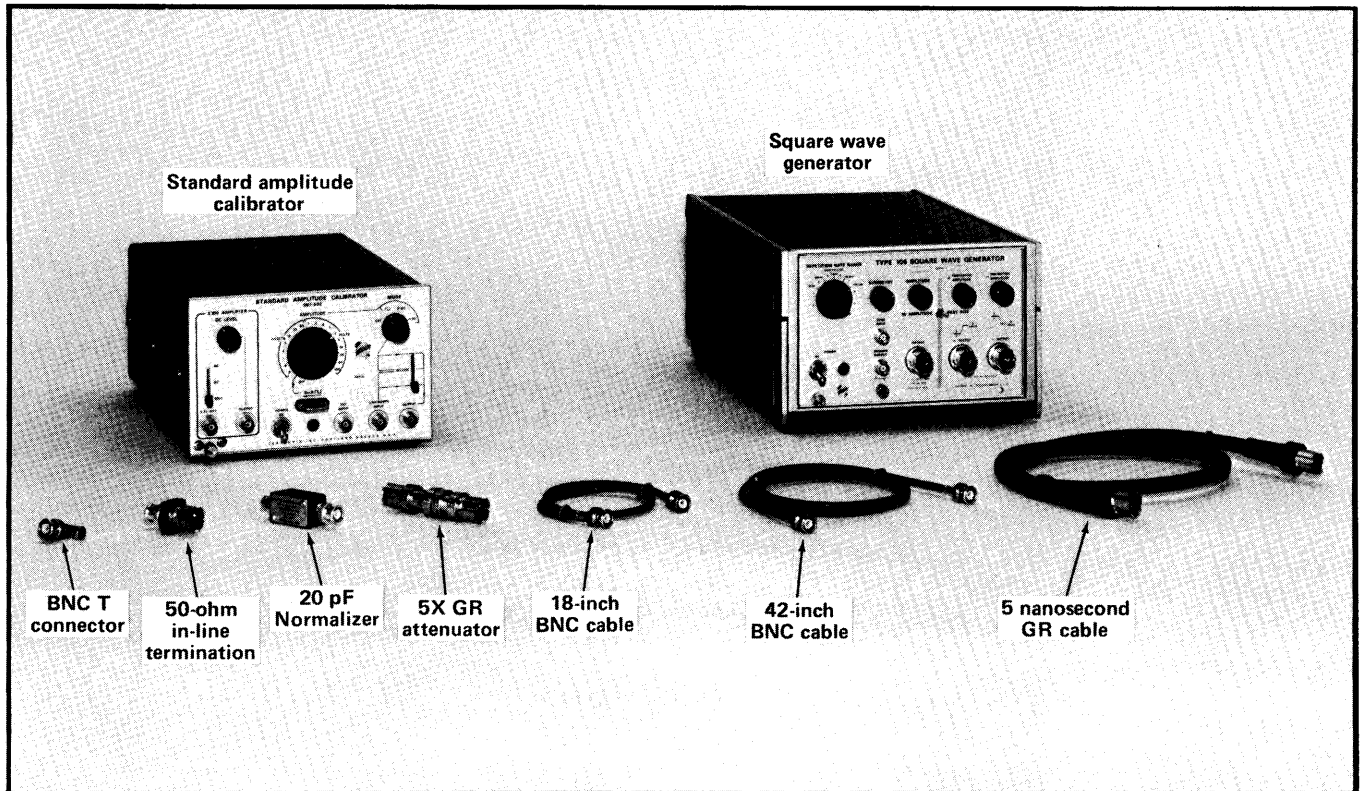

Fig. 5-12. Test equipment required for steps 13 through 24.
- a. Test equipment required for steps 13 through 24 is shown in Fig. 5-12.